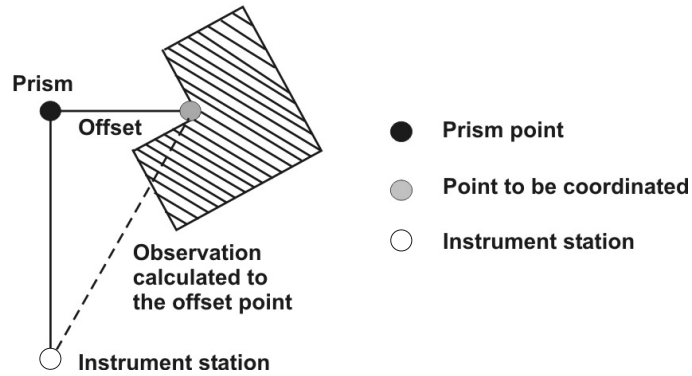

Figure 4: Horizontal/vertical angles and slope distance calculation
- The SETX calculates the horizontal and vertical angles and slope distance to the target point, then it stores them in an observation record. The offset from the prism to the target point is assumed to be horizontal. A NOTE OS record (example shown below) is generated that shows the original measurements and the offset distance and direction used in the calculation. See Figure 4, Page 8-9.